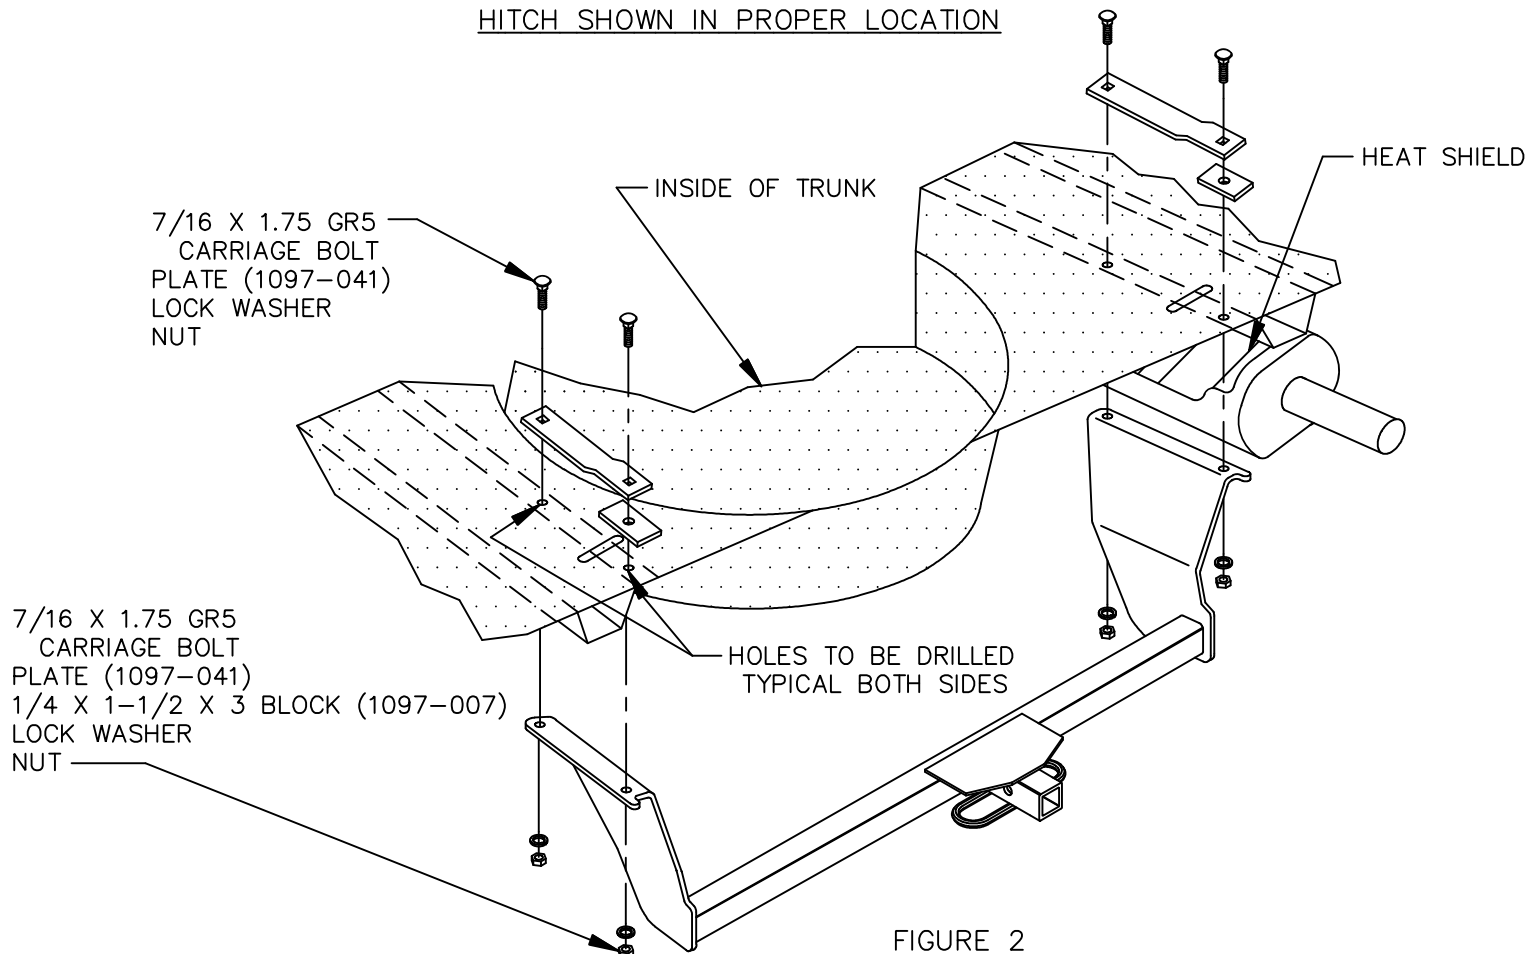

FIGURE 2
9. INSTALL REINFORCEMENT PLATE, BLOCK AND 7/16 CARRIAGE BOLTS AS SHOWN IN FIGURE 2. FASTEN WITH LOCK WASHERS AND NUTS.
11. INSTALL REINFORCEMENT PLATE, BLOCK AND 7/16 CARRIAGE BOLTS AS SHOWN IN FIGURE 2. FASTEN WITH LOCK WASHERS AND NUTS. TIGHTEN 7/16 GR5 FASTENERS TO 50 LB.-FT.